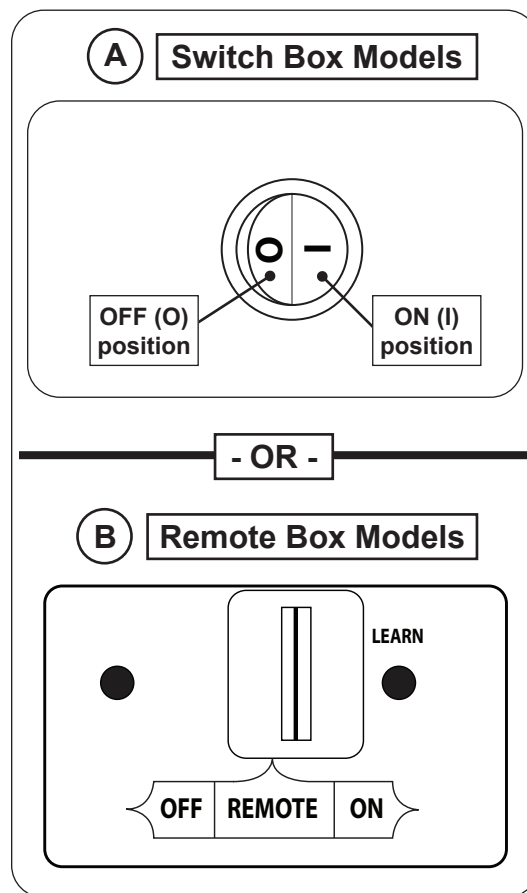

Fig. 25-1 Manual operation
2. Locate the ON/OFF switch at the front of the switch box and/or the 3-position switch on the remote receiver (as applicable), and press/slide to the **OFF** position(s) (see Fig. 25-1).
3. **Switch Box Models:** Press the ON/OFF switch to the **ON (I)** position (Fig. 25-1, A).
Remote Box Models: Slide the 3-position switch to **ON** (Fig. 25-1, B).